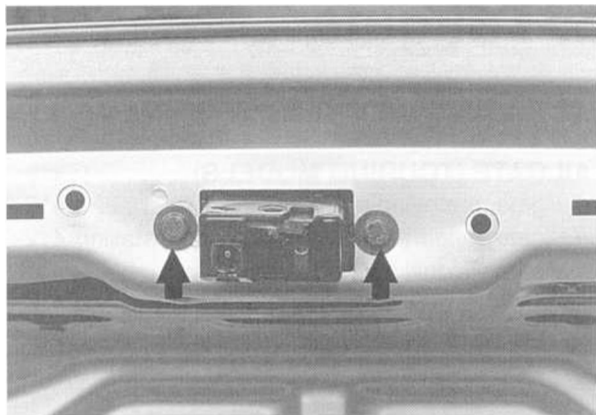

Fig. 3. Trunk lid lock mounting bolts (arrows).
3. Loosen bolts at lock on trunk lid. See Fig. 3.